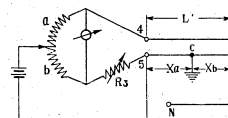

FIG 10
- (3) Push lever switch to "RES". Balance the bridge with the original ratio, and obtain reading R_3 (Fig 10)